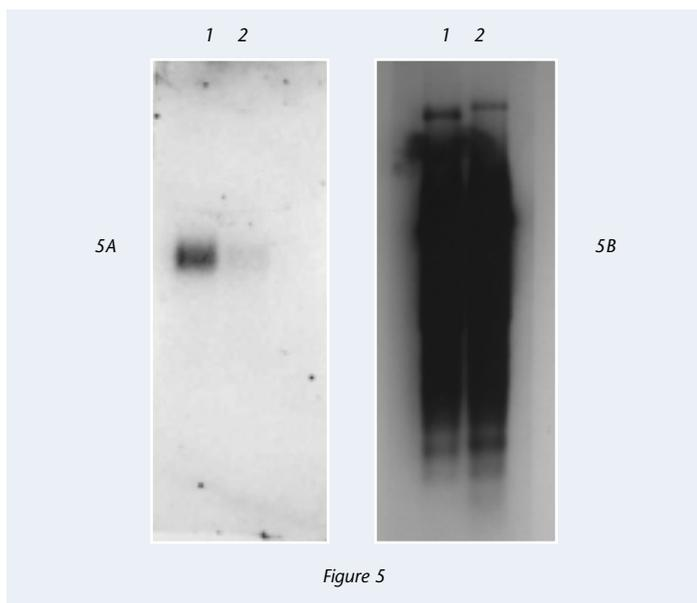

Figure 5
Figure 5: Detection of a Low Expressed Transcript with Varying Hybridization Conditions. Duplicate lanes of 5 µg of total RNA from WEHI-231 untreated and anti-IgM treated cells were electrophoresed on a 1% formaldehyde gel and transferred by a 2 hour alkaline method to Biotodyne B Nylon Membrane. The membrane was cut in half and hybridized with a biotinylated c-myc riboprobe in either formamide or aqueous hybridization buffer. Detection was carried out using the Detector AP Chemiluminescent Blotting Kit. 5A: When using a formamide-based solution, the c-myc gene was observed as a single band in the control sample (1) and the down-regulated treated sample (2). 5B: Significant non-specific binding of the probe to the total RNA resulted on the blot hybridized in an aqueous hybridization solution.
The hybridization solution contained in Detector kits was formulated to include formamide. As a destabilizer formamide lowers the melting temperature of hybrids, increasing the stringency of the probe to target binding. Use of this agent results in minimal nonspecific hybridization; less optimization of washes is required by the end user. Unlike aqueous hybridization solutions, buffers containing formamide effectively minimize background to allow subsequent detection of single copy genes and low expressed transcripts. (Figure 5) Thus, these types of solutions can be applied more universally. Blotting procedures may also be expedited through the use of Formamide Hybridization Buffer, reducing an overnight hybridization to 2 hours without impact on signal:noise ratio. Note that this is acceptable when detecting plasmid DNA or moderately expressed transcripts; however, overnight incubations are required for greatest sensitivity when detecting low copy genomic DNA and rare mRNA.